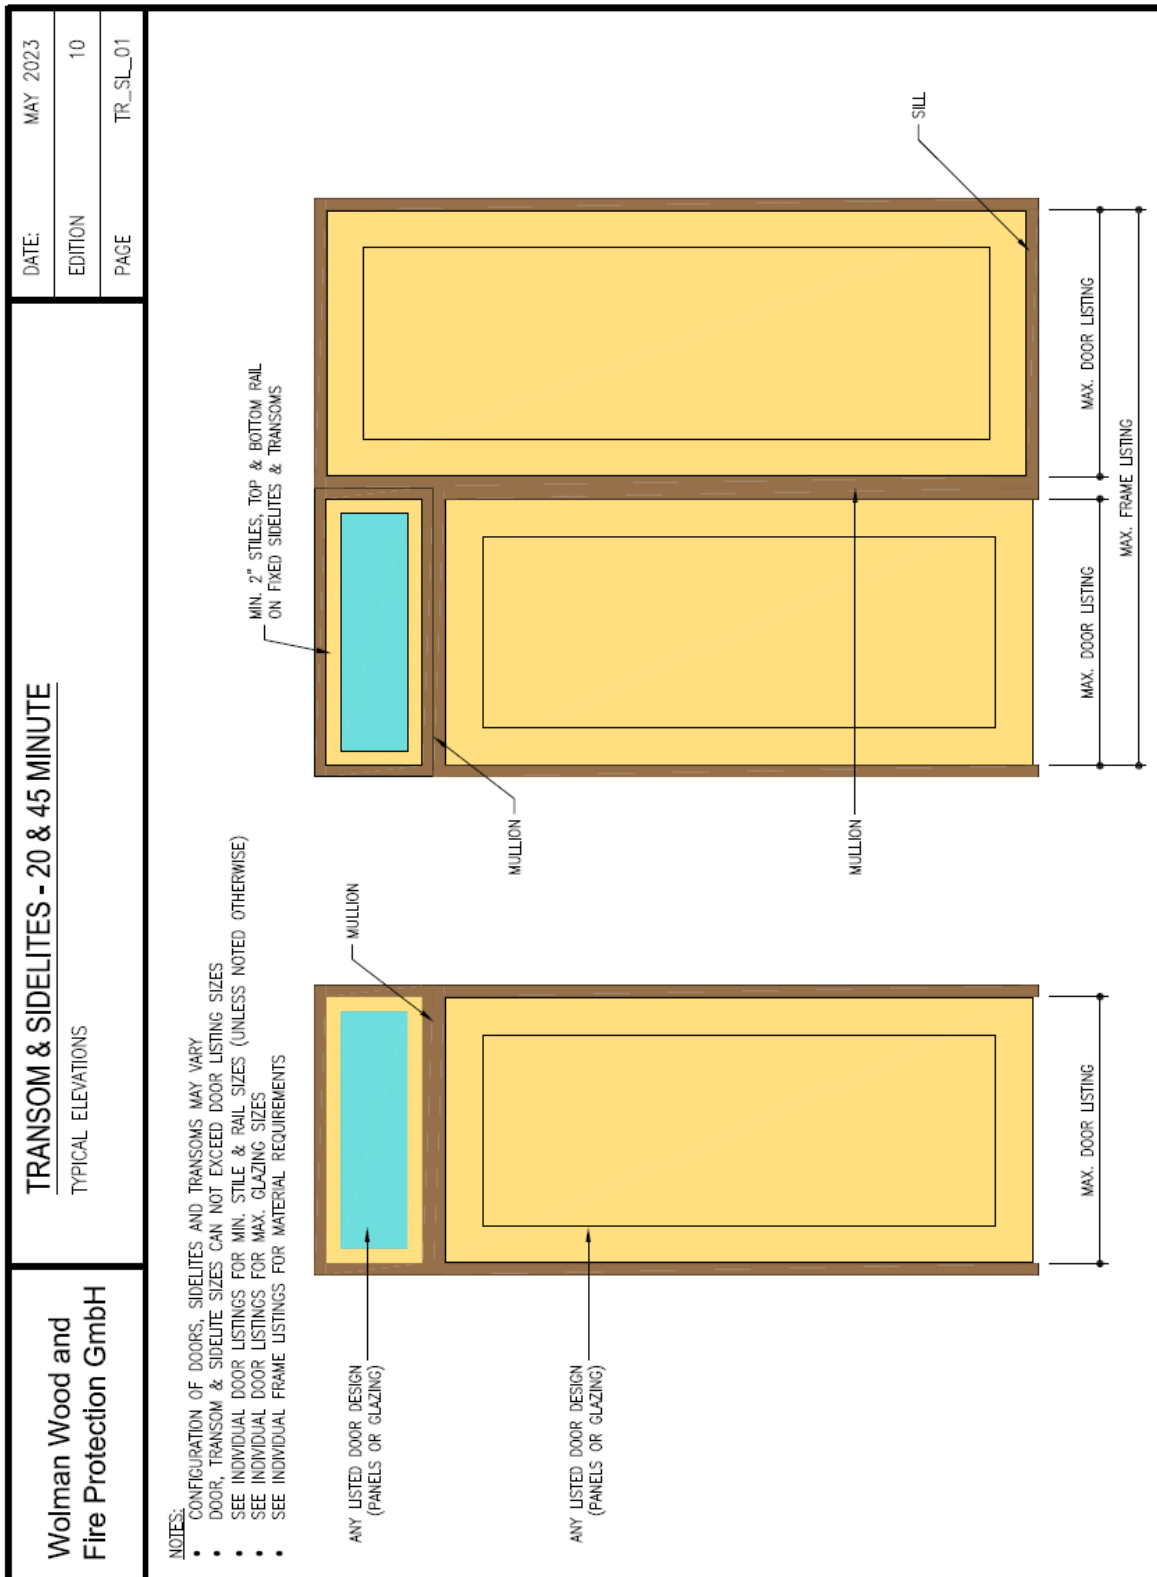

Figure 2: Single or mullioned frames with sidelite and/or a transom.
- Not permitted, except for sidelites and transoms as shown in Figures 2 to 7 in the enclosed drawings.